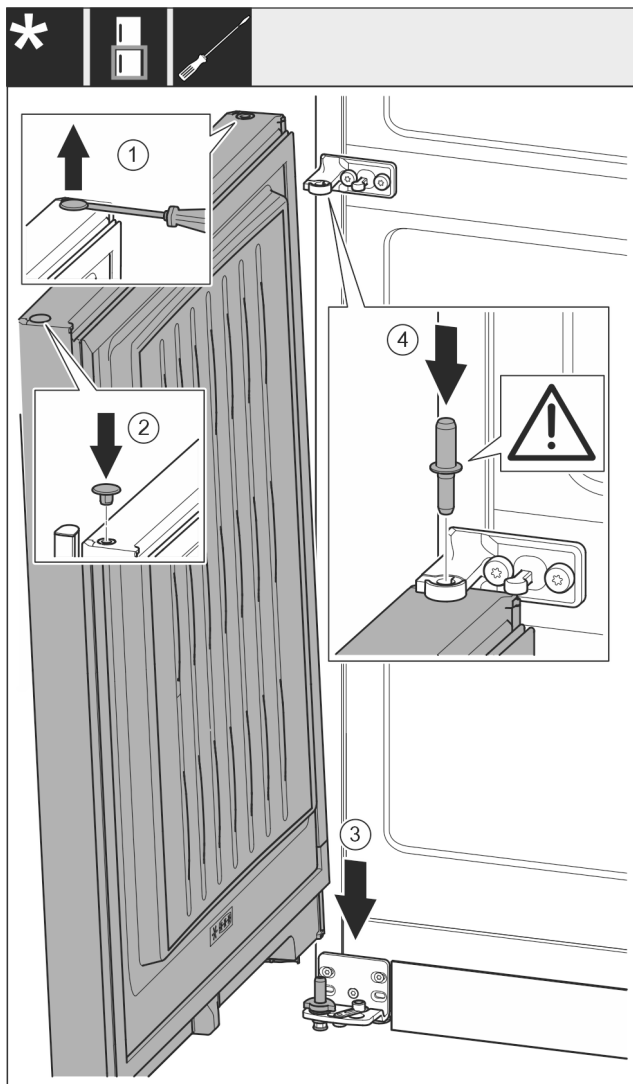

Fig. 22
- ▶ Use a slotted screwdriver to lift the plug Fig. 22 (1) carefully and pull it out.
- ▶ Re-insert the plug Fig. 22 (2) on the other door side.
- ▶ Lower the door Fig. 22 (3) onto the bottom bearing bolt.
- ▶ Insert the centre bearing bolt Fig. 22 (4) through the centre bearing block in the lower door. Ensure that the latching cam is pointing towards the rear.